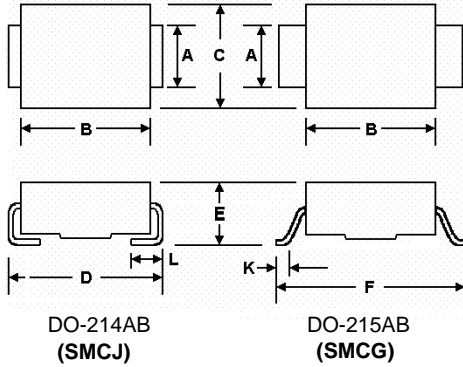

**FIGURE 5**
The TVS low capacitance device configuration is shown in Figure 4. As a further option for unidirectional applications, an additional low capacitance rectifier diode may be used in parallel in the same polarity direction as the TVS as shown in Figure 5. In applications where random high voltage transients occur, this will prevent reverse transients from damaging the internal low capacitance rectifier diode and also provide a low voltage conducting direction. The added rectifier diode should be of similar low capacitance and also have a higher reverse voltage rating than the TVS clamping voltage  $V_c$ . The Microsemi recommended rectifier part number for the application in Figure 5 is the "SMBJLCR80" or "SMBGLCR80" depending on the terminal configuration desired. If using two (2) low capacitance TVS devices in anti-parallel for bidirectional applications, this added protective feature for both directions (including the reverse of each rectifier diode) is inherently provided in Figure 6. The unidirectional and bidirectional configurations in Figure 5 and 6 will both result in twice the capacitance of Figure 4.